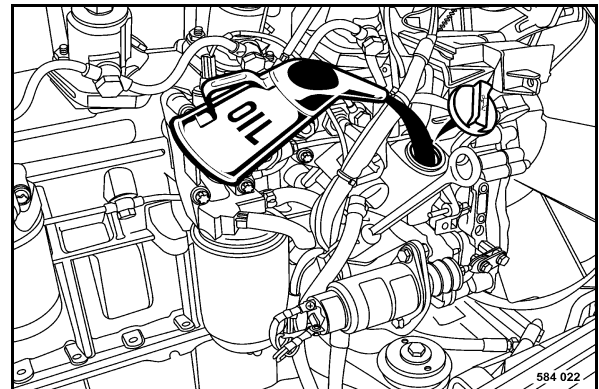

Fig. 142
- Fill in new engine oil (Fig. 142).